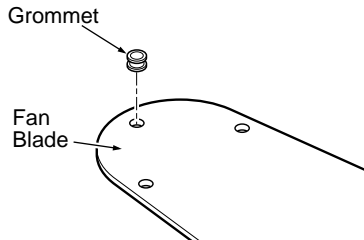

Figure 6a - Inserting Grommet into Fan Blade
1. Your fan may include blade grommets (see Parts List). If your fan has grommets, insert them by hand into the holes as shown in Figure 6a.